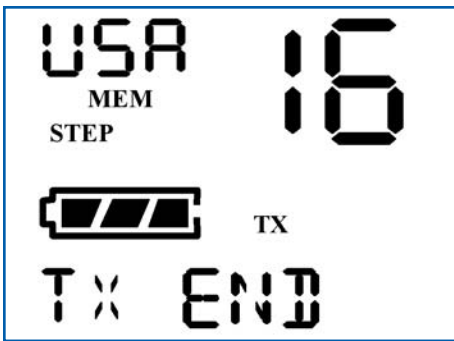

Fig. 8b: Transmission Ended Display
- When the **PTT** key is released, the Radio Status Display will show **TX END** (Fig. 8b)